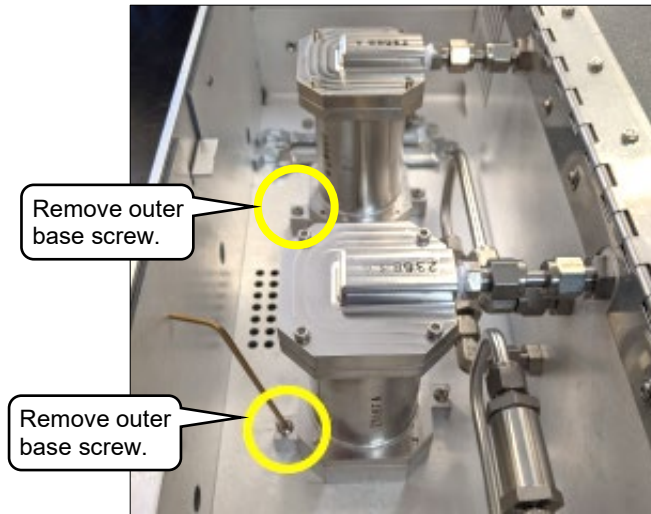

Figure 44: Removing Scrubber Housing Outer Base Screw
3. Remove the outer base screw of the scrubber housing (Figure 44).